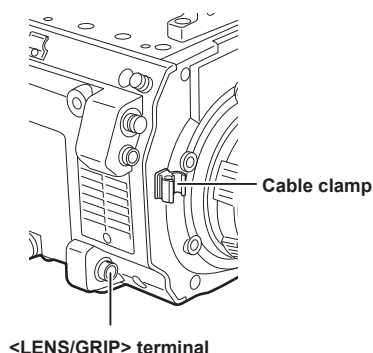

Fig. 4
- 4** If a cable is attached to the lens, secure the cable through the cable clamp and connect it to the <LENS/GRIP> terminal. (Fig. 4)